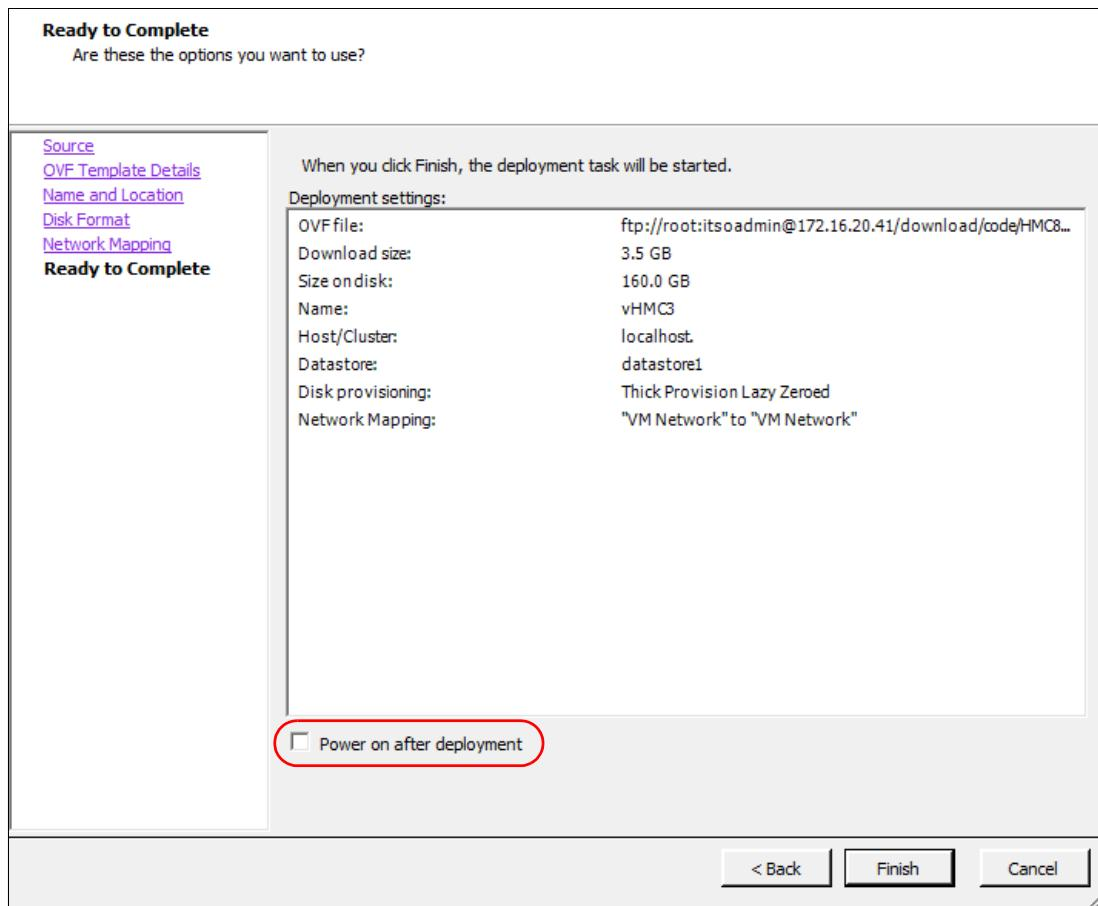

Figure 3-38 Ready to Complete panel
8. In the Ready to Complete panel (Figure 3-38), to allow further configuration, *do not select* the Power on after deployment option. Click **Finish** to start downloading the OVA file onto the VMware to deploy the vHMC.